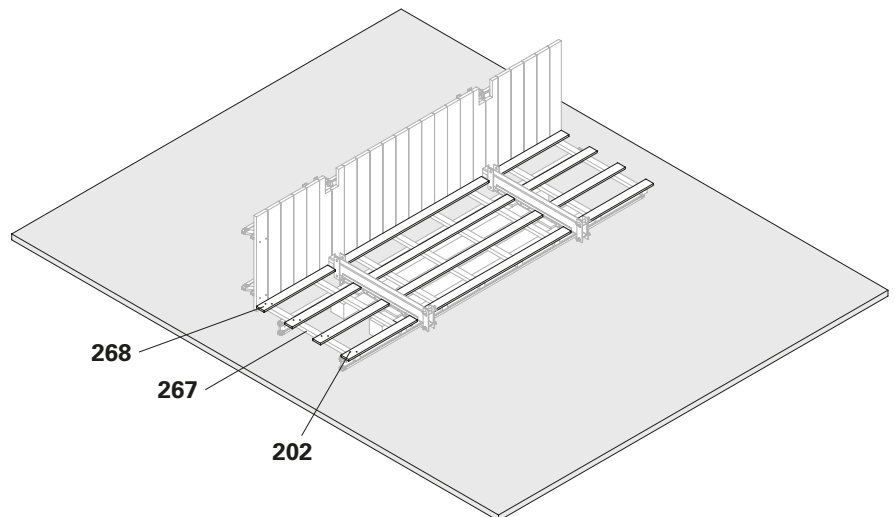

Fig. B10.12
6. Screw the ladder cage (**268**) onto the counter-batten (**267**) using Torx 6 x 80 (**202**). (Fig. B10.12)